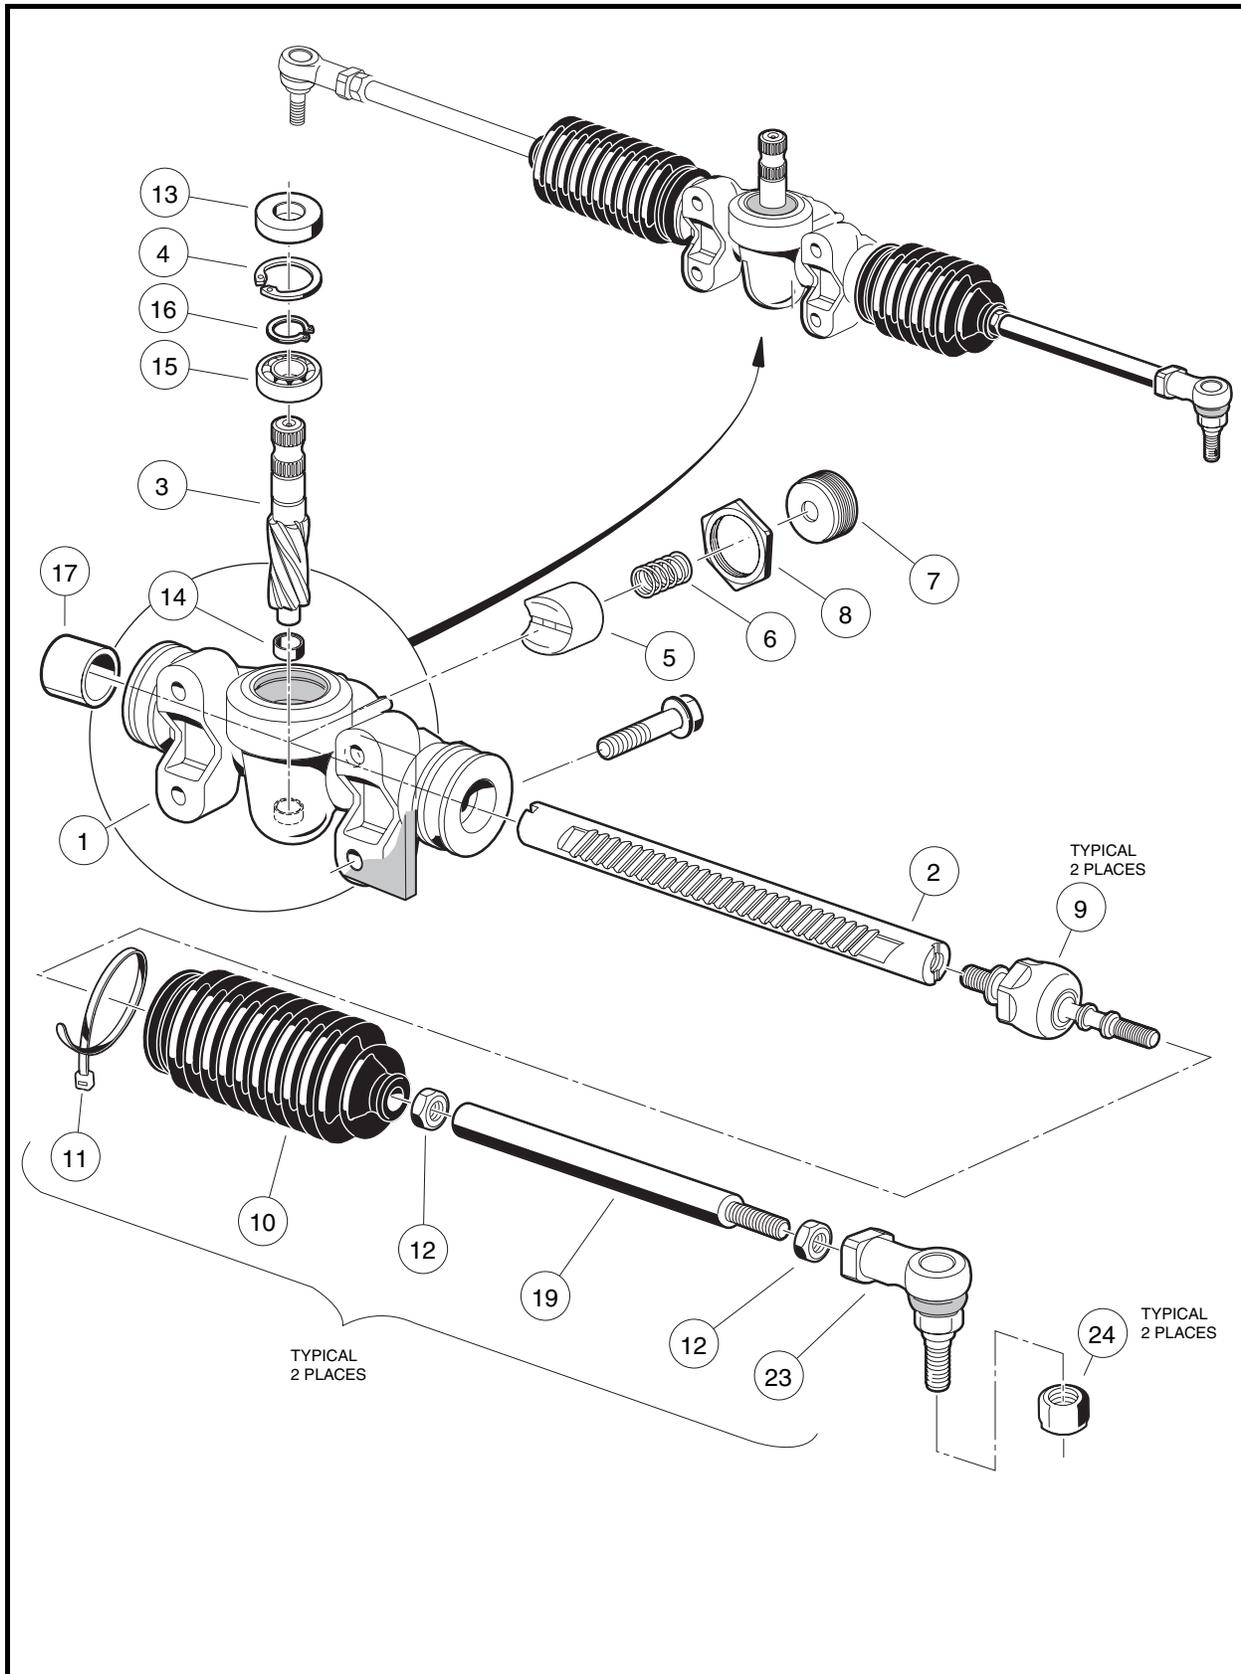

Figure 7-16 Steering Gear Assembly
6. Remove the rack screw nut (8), rack guide screw (7), rack guide pressure spring (6), and the rack guide (5) (**Figure 7-16, Page 7-8**).
12. Inspect the bushing (17) and needle bearing (14) for excessive wear. If wear is excessive, replace the complete rack and pinion steering assembly (**Figure 7-16, Page 7-8**).
13. Inspect the inner ball joints for wear (**Figure 7-16, Page 7-8**). If either is excessively worn, replace both ball joints.
14. Remove the rack (2) from the housing (1) (Figure 7-16, Page 7-8).
1. Apply a liberal amount of EP grease to the teeth of the rack (2), then slide the rack through the bushing (17) and housing (1) (**Figure 7-16, Page 7-8**).
6. Apply a small amount of grease to the rack guide (5) where it contacts the rack (2) (**Figure 7-16, Page 7-8**).
10. Install the rack guide (5), pressure spring (6), and screw (7). Thread-in the screw until it bottoms out, and then unscrew it 1/4 turn (**Figure 7-16, Page 7-8**).